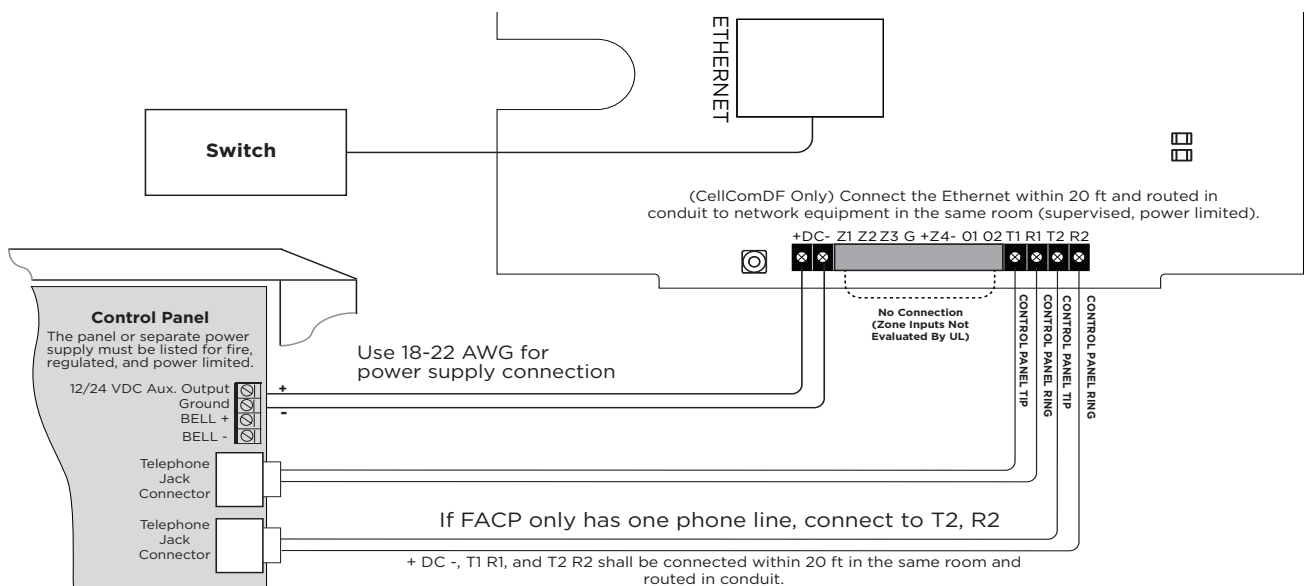

Figure 1: Wiring Diagram for Tip and Ring Connection
Directly connect both tip and ring terminals from the control panel to the communicator. See Figure 1. This connection captures Contact ID messages from any fire panel that are based on the SIA communication standard DC-05-1999.09-DCS. Messages are then formatted into a Serial 3 message and sent to an SCS-1R Receiver or SCS-VR Receiver.
1. Connect the communicator to the FACP as shown in Figure 1 and program the communicator according to the tables above.